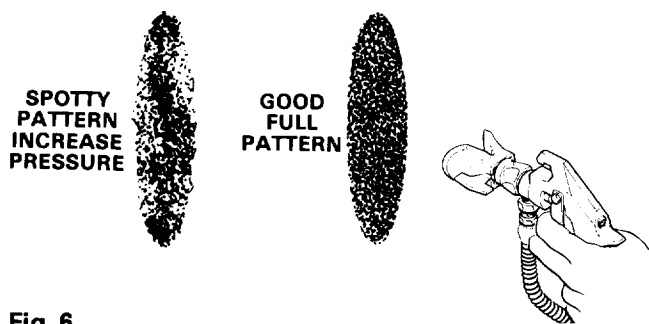

Fig 6
3. Adjusting the Spray Pattern (Refer to Fig 6.)